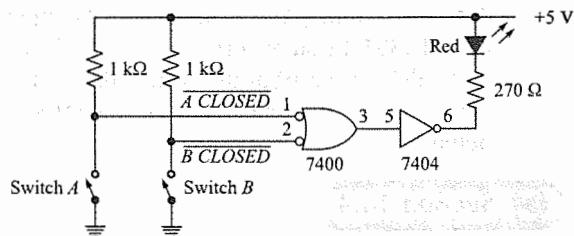

Fig. 14.55
- 14.32 When switch *B* of Fig. 14.55 is closed, is the LED on or off? For this condition, what is the current in the LED?